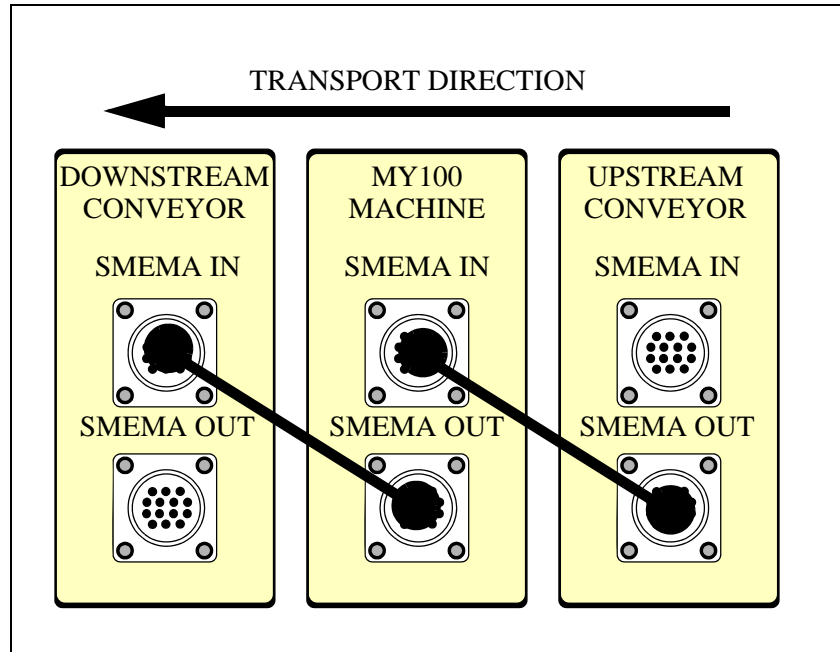

Figure 2-31. SMEMA connection between machine and external conveyors.
2. Use a SMEMA cable and connect the machine's SMEMA IN to the upstream conveyor's SMEMA OUT connector, see Figure 2-31.
3. Use another SMEMA cable and connect the machine's SMEMA OUT to the downstream conveyor's SMEMA IN connector, see Figure 2-31.